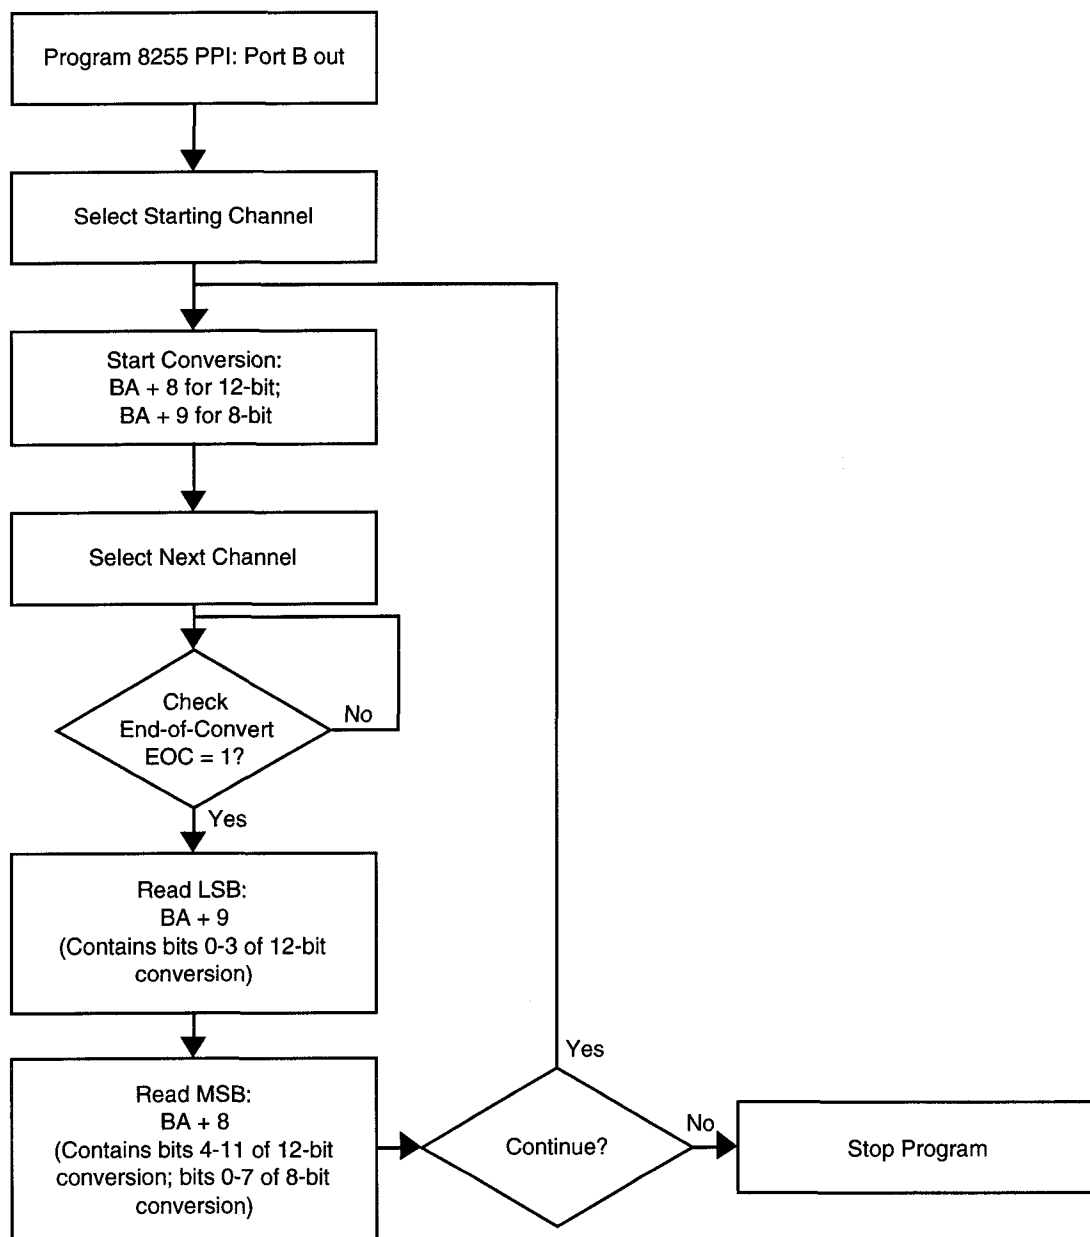

Fig. 4-4 — Channel Scanning Flow Diagram
• **Channel Scanning Flow Diagram (Figure 4-4)**